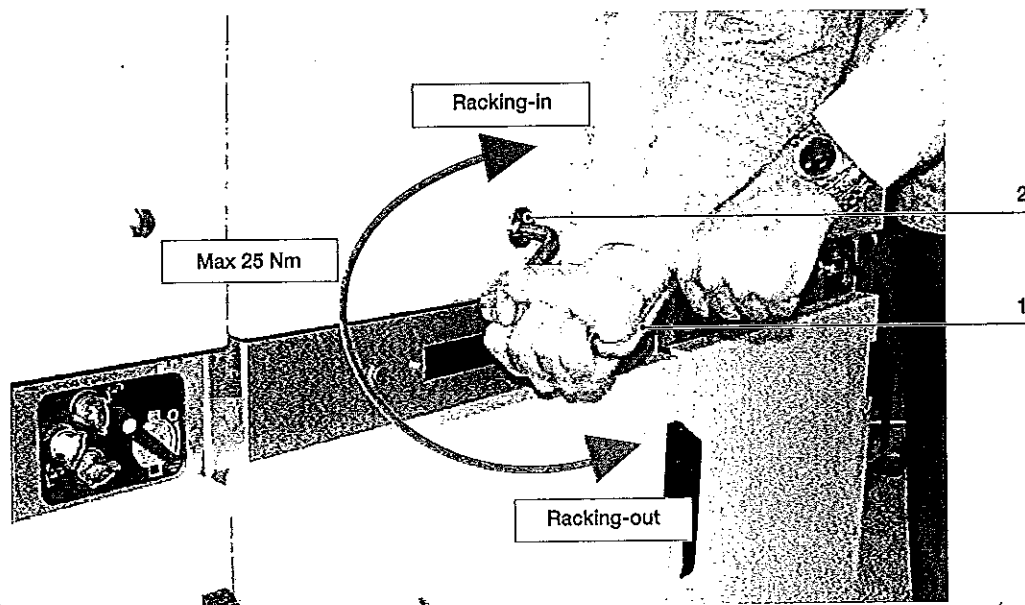

Fig. 9
For racking-in/racking-out of the switchgear, fully insert the lever (1) (fig. 9) in the appropriate seat (2) and work it clockwise for racking-in, and anti-clockwise for racking-out, until the limit switch positions are reached.
- Insert the manual racking-in lever (1) in the special coupling (2) Fig. 9, and take the motorized truck to about half its run between the isolated for test and the connected position. The torque needed to carry out truck handling is ≤ 25 Nm. In the case of accidental inversion of the truck motor power supply polarity, this operation allows a possible error in direction to be dealt with without any damage. Verification checks:
- Remove the manual lever (1) from the coupling (2) Fig. 9